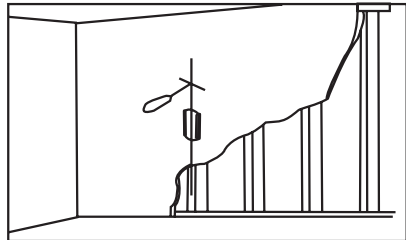

Fig 2b
Wooden wall(Fig 2b):
Using a awl or nail to make where the nails are located, as shown as fig.2b. Distance between two nails for fixing wall mount must not less than 12". Pre-drill these holes with a 5mm drill bit to at least 80mm in deep hole. Please make sure these holes are level and located at center. Use wall mount as a template to mark the location of other three holes and drill the same holes. Fix the wall mount to the wall with 4 long bolts(O) and washers(Q).